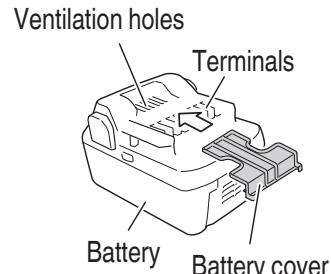

Fig. 4
- Either install the battery in the power tool or store by securely pressing into the battery cover until the ventilation holes are concealed to prevent short-circuits (Fig. 4).